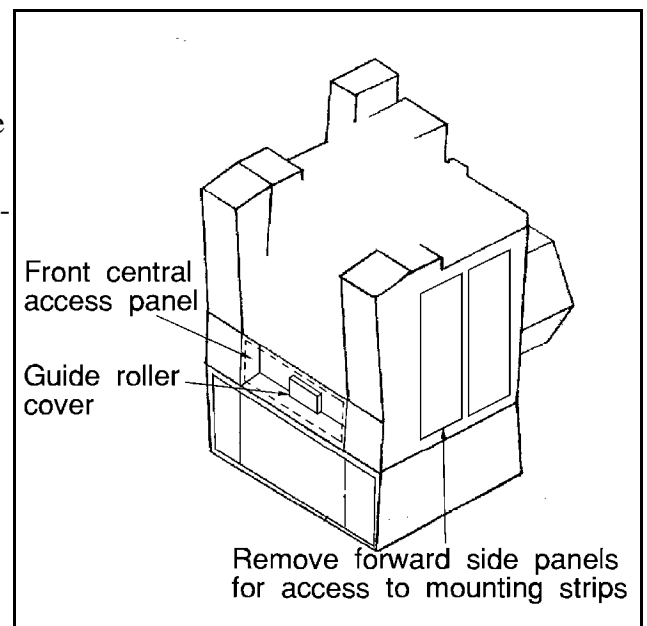

FIGURE 1 (MSSM0111AE)
1. Remove the front central access panel (FIGURE 1). Remove the guide roller cover (two screws).
NOTE: The mounting bolts screw into two threaded mounting strips that may have fallen out of place when the roller bracket was removed. Remove the two forward panels on both sides of the machine and position these strips when re-installing the mounting bolts (FIGURE 1).